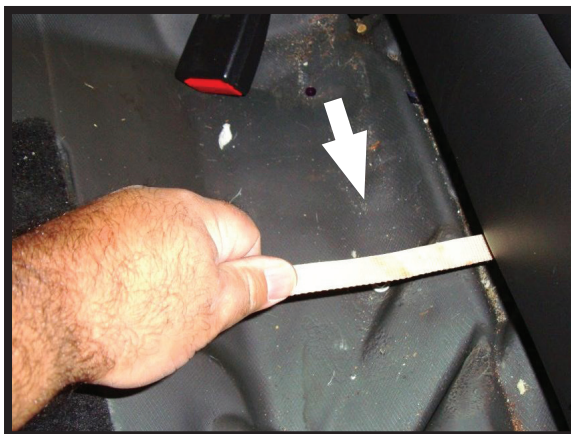

FIGURE 26
2. PULL CORD TO RELEASE SEAT BACK WHILE ROTATING TOP OF SEAT FORWARD, BOTH SIDES. (FIGURE 26)